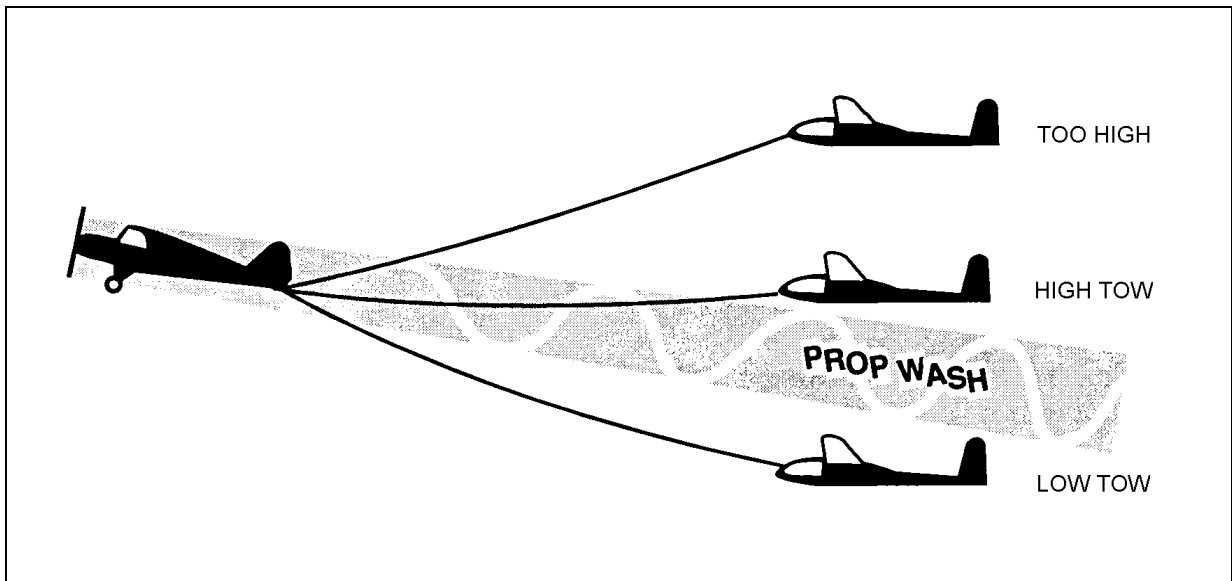

Figure 6-3-9 Tow Positions
57. On tow, the glider must maintain either the high tow or low tow position (see Figure 6-3-9). During training you will be using predominantly the high tow position. The proper high tow position places the tow aircraft's wings on the horizon (for the Scout) or has the horizontal stabilizer centred in the "X" made by the struts and landing gear (for the L-19). The vertical fin should bisect the fuselage. An alternate method is to have the tow rope centred between the tow aircraft's main wheels.